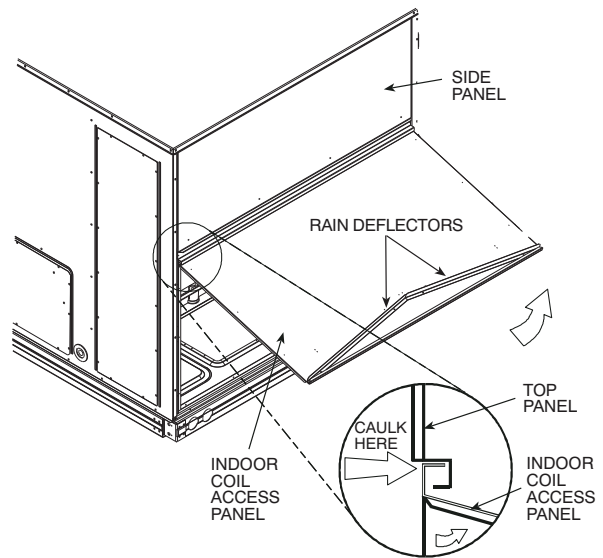

Fig. 13 — Indoor Coil Access Panel Relocation
- The indoor coil access panel will be used as the top of the hood. If the panel is still attached to the unit, remove the screws along the sides and bottom of the panel. See Fig. 13.
- Install the two rain deflectors on the edge of the hood top as shown in Fig. 13.
- Caulk the ends of the joint between the unit top panel and the hood top as shown in Fig. 13.